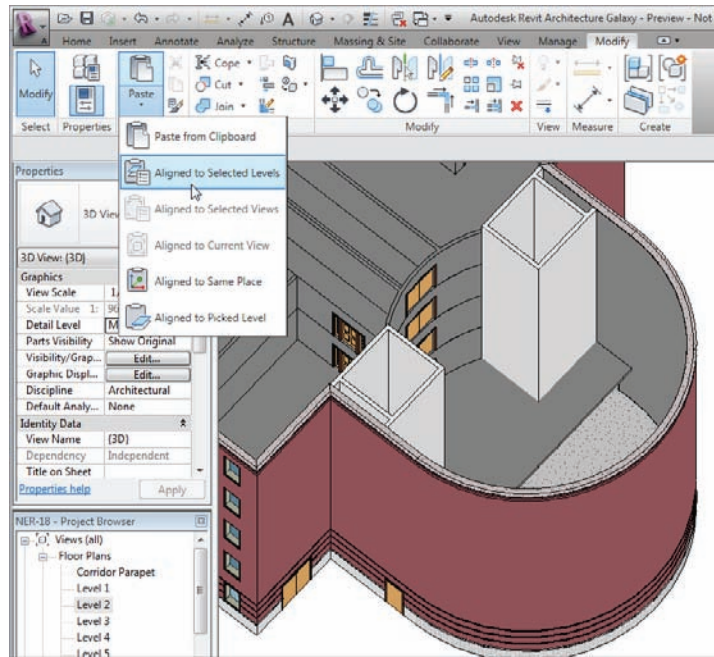

FIGURE 6.30 Using Paste Aligned To Selected Levels
3. Go to the default 3D view, as shown in Figure 6.30.
4. From the Paste fly-out on the Clipboard panel of the Modify tab, click Paste > Aligned To Selected Levels, as shown in Figure 6.30.